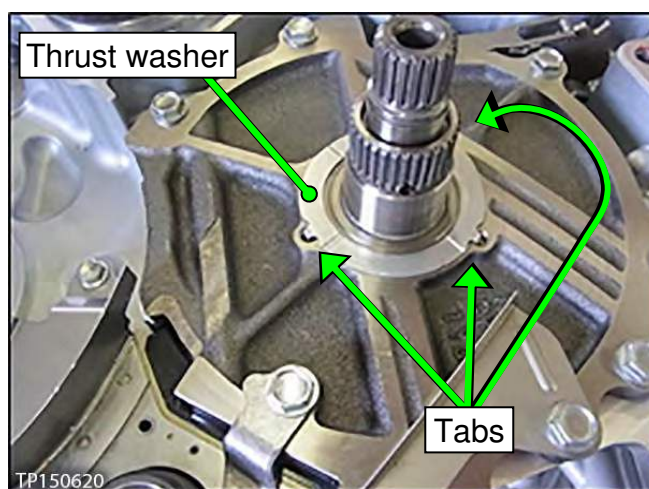

Figure 7l
8. Install the thrust washer onto the dummy cover (Figure 7l).